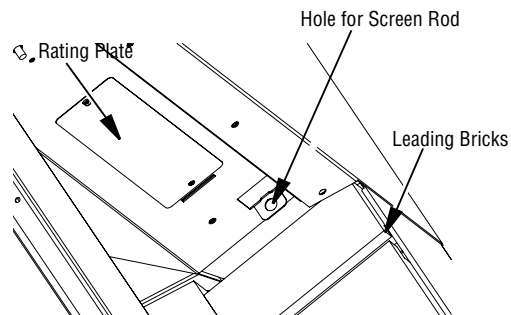

Figure 35 - Installing Fireplace Screen
- Bend tab on both sides with the hole down to insert the round end screen rod into hole on the left and right side of smoke shelf (**Figure 35**).